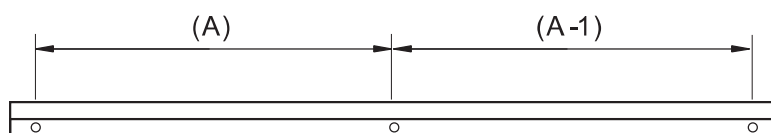

Fig. 1
- 1.2 After selecting the location of the mirror cabinet, check whether the wall is solid, measure the distance of the holes (A, A - 1) in the aluminum alloy bar with a tape measure and mark it on the wall with a pencil (Fig. 1).